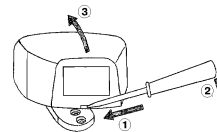

Fig.2
1. To remove the unit front cover, insert a small screwdriver into the slot at the bottom of the unit housing and press down (fig.2).